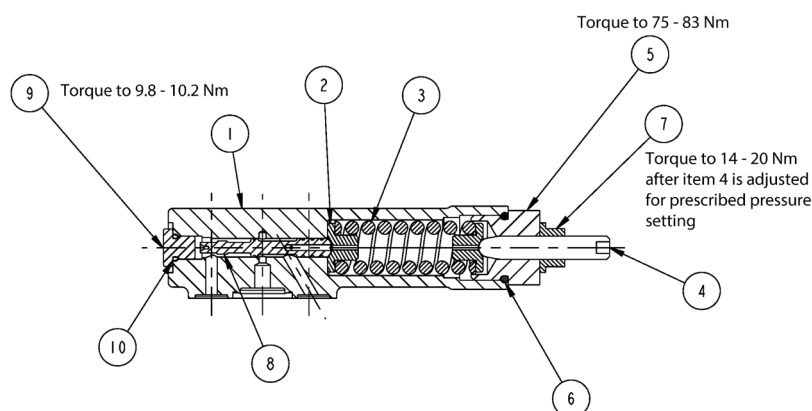

Figure 12
1. Remove the four screws fastening the compensator housing to the end cap (Figure 12②).
2. Remove the compensator and take out the three O-rings (Figure 12③④).
5. Install three O-rings (Figure 12③④). The one in the middle is larger, and the ones at ends are smaller.
6. Fasten the compensator housing to the end cover with four screws (Figure 12②) and tighten them with a torque of 7.4 - 9 Nm. When tightening, use a crisscross pattern and re-tighten the first screw.